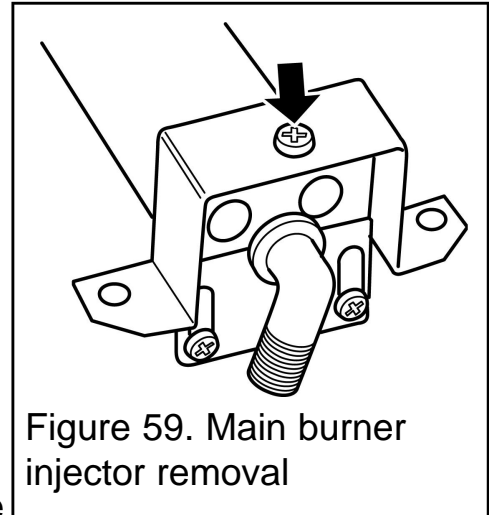

Figure 59. Main burner injector removal
(See figure 59).
2. Remove the burner clamping screw (See figure 59)